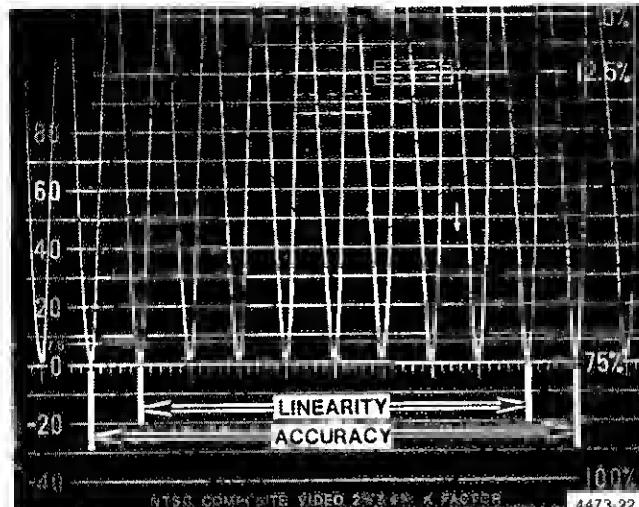

Fig. 5-6. Using triggered sine waves to make timing measurements.
d. Display INPUT B with the 2H MAG SWEEP. Position the sine wave tips to the horizontal division markings of the display. See Fig. 5-6.